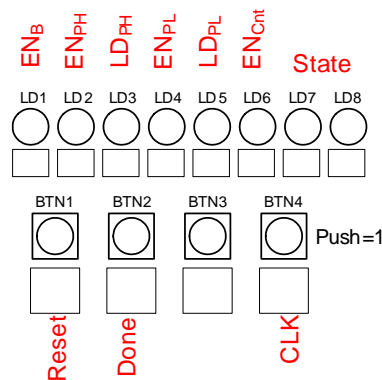

Figure 12.7: Controller Inputs/Outputs Assignment.
12. The Boolean expressions of the various control signals can be easily derived from the state diagram. See Figure 12.7 for inputs/outputs connectivity.